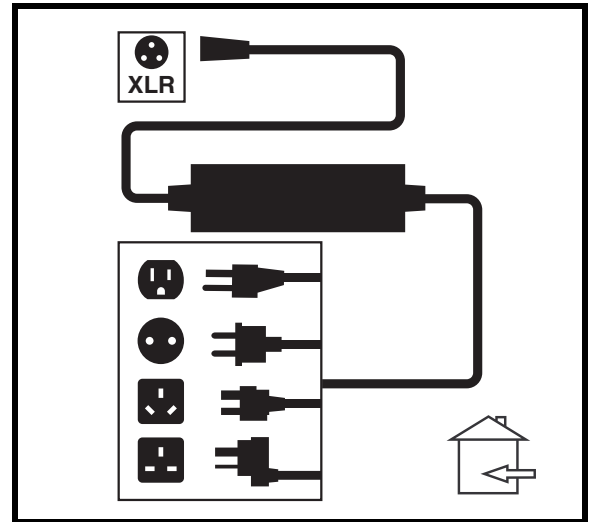

Figure 18. Battery Charging
3. Plug the off-board charger into the battery box charger port. See figure 18.